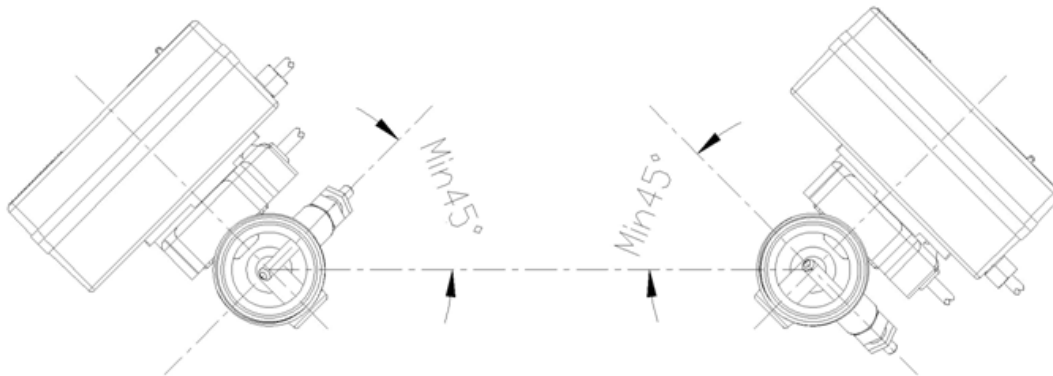

Figure 4: Mounting Rotation 1
3. If the meter is installed on the horizontal pipe, it must be oriented at least 45° from horizontal (see Figure 4). If the meter's face is horizontal (see Figure 5), then debris accumulation can increase inaccuracies. There is no special requirement when installing on the vertical pipe work.